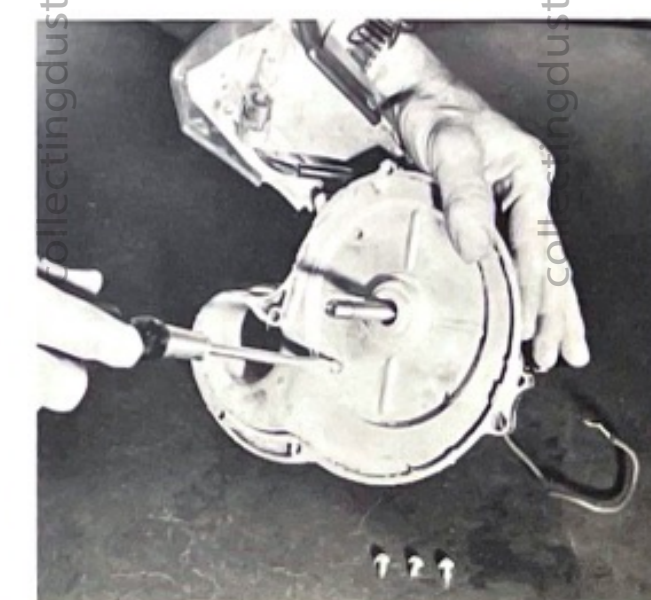

Figure 1-56. Installing front bearing plate screws
g. Position the assembled front bearing plate and bearing over the armature shaft and align with the holes of the motor housing casting; secure with the four screws (54, fig. 1-3) as shown in figure 1-56.
h. Install the commutator brushes as directed in paragraph 1-17a(5) and (6) or 1-17b(5) through (7).